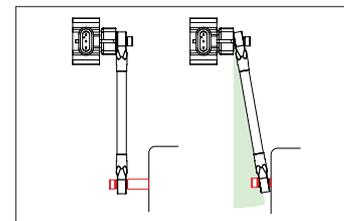

Abb. 31: Coupling rod angle
6. Mount the coupling rod on the sensor arm and on the attachment point on the suspension. Pay attention to the angle between the coupling rod and the sensor arm (Fig.31). This may be a maximum of 15 degrees and can be corrected using spacers at the attachment point.